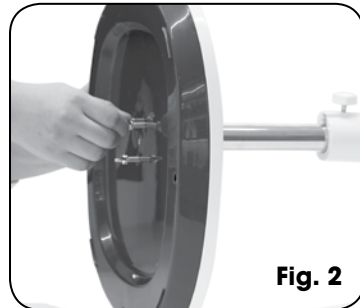

Fig. 2
2. Insert the three butterfly screws into the holes at the bottom of the anti-topple base and securely tighten them (See Fig 2). Turn the unit back to its upright position.